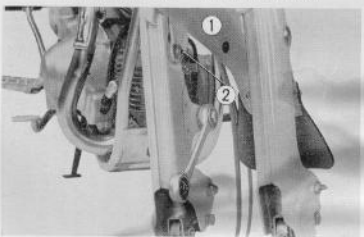

Fig. 4.34 Removing front fender (CT 90)
5. Remove the front fender ① by removing the two 8 mm hex nuts ②. (CT 90) (Fig. 4.34)